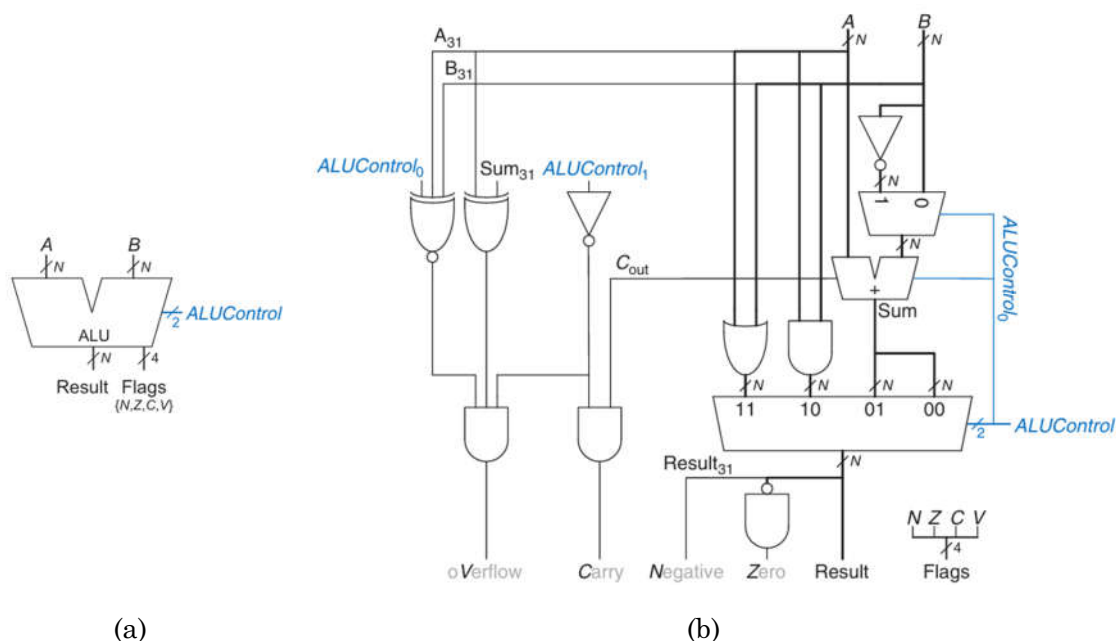

Figure 3 (a) ALU symbol with output flags (b) N-bit ALU with output flags.
➤ Some ALUs produce extra outputs, called flags, that indicate information about the ALU output. **Figure 3(a)** shows the ALU symbol with a 4-bit Flags output. As shown in the schematic of this ALU in **Figure 3(b)**, the Flags output is composed of the N, Z, C, and V flags that indicate, respectively, that the ALU output, **Result**, is negative or zero or that the adder produced a carry out or overflowed. Recall that the most significant bit of a two's complement number is 1 if it is negative and 0 otherwise.
- The *Z (Zero) flag* is asserted when all of the bits of **Result** are 0, as detected by the N-bit NOR gate in **Figure 3(b)**.
➤ An N -bit shifter can be built from N $N:1$ multiplexers. The input is shifted by 0 to $(N - 1)$ bits, depending on the value of the $\log_2 N_{\text{bit}}$ select lines. **Figure 3** shows the symbol and hardware of 4-bit shifters. Depending on the value of the 2-bit shift amount ***shamt[1:0]***, the output Y receives the input A shifted by 0 to 3 bits. For all shifters, when ***shamt[1:0] = 00***, $Y = A$.